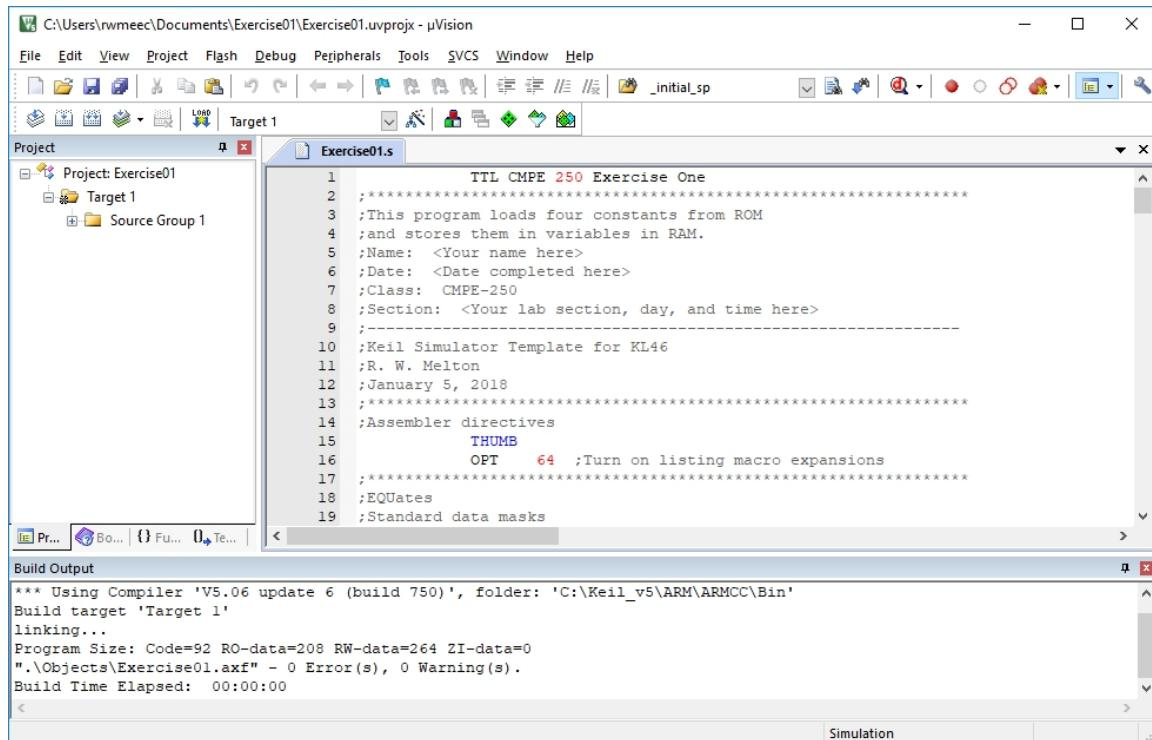

Figure 19. Project after Build
- c. If, as in Figure 19, the next to last line of text in the Build Output pane shows ".\Objects\Exercise01.axf" – 0 Error(s), 0 Warning(s), the build was successful. Otherwise, any errors must be corrected before an executable file is produced.